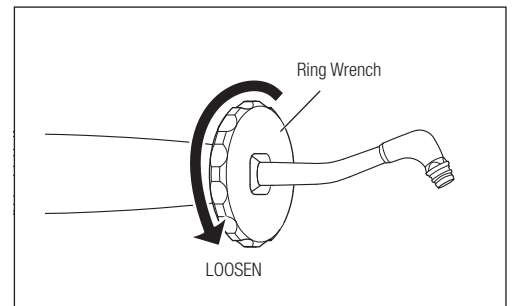

Fig. 39
- 1) Pass through the supplied Ring Wrench from the Nozzle end, loosen the Nozzle, and remove the Nozzle from the Handpiece (Fig. 39).